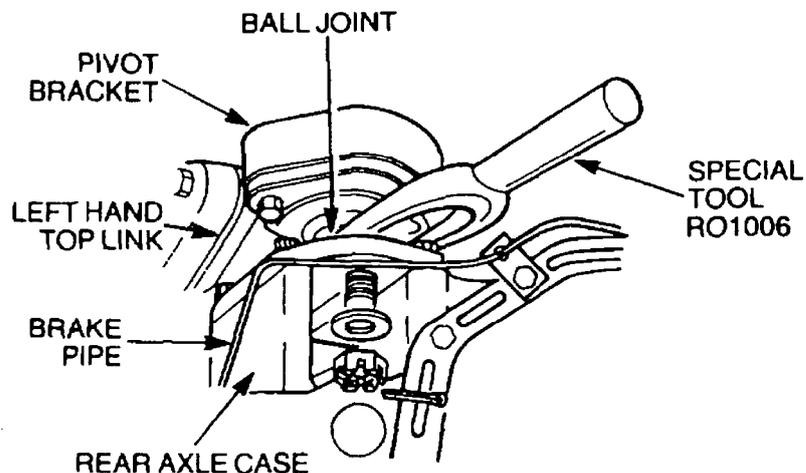

Figure 68 Top Link and Ball Joint Removal
- k. Remove the split pin, castellated nut and washer securing the top link and ball joint to the rear axle casing (Figure 68). Using special tool RO1006, remove the ball joint taking care not to damage the brake pipe. Discard the split pin.